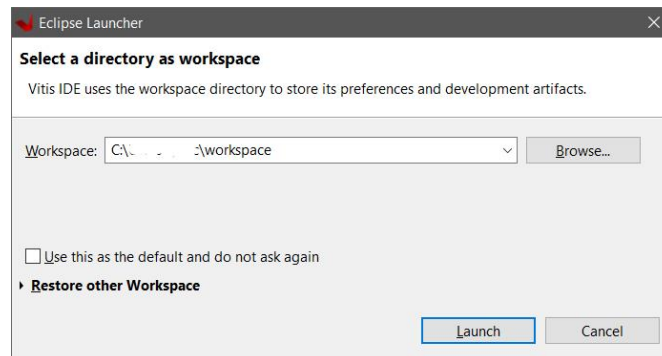

Figure 21
2. Choose the folder where you want to create the Vitis workspace and click **Launch** (Figure 21)